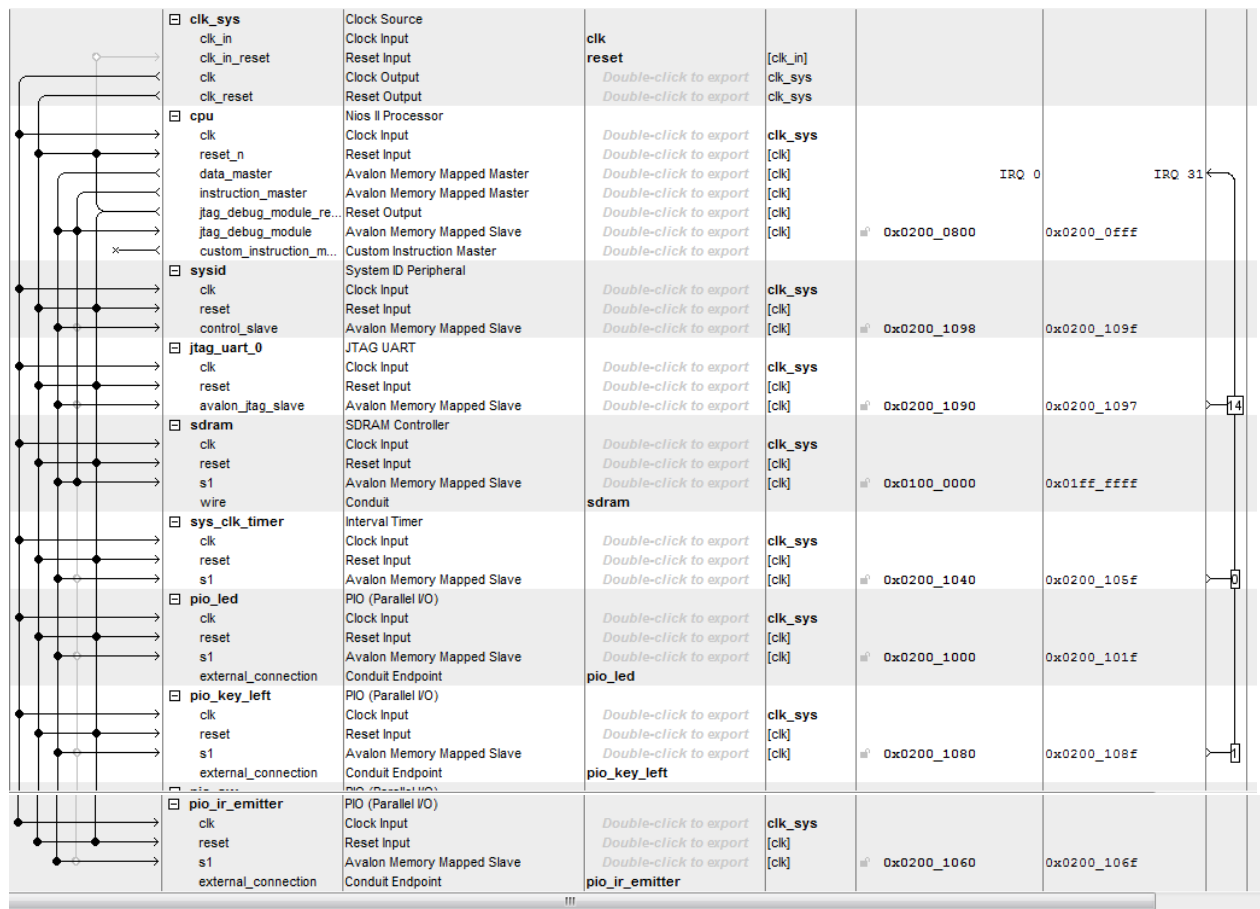

Figure 4 Final Qsys system
9. Refresh using **File > Refresh System**. Your system should look like Figure 4, below.